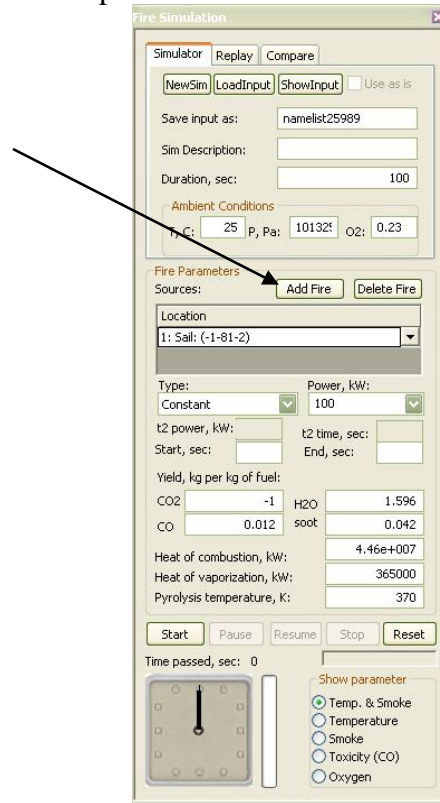

Figure 3.3 Fire Simulation Popup
Step 3: In the Fire Simulation popup (shown in Figure 3.3), by default one fire source has already been added and it defaults to the first compartment. Additional fire sources can be added with the *Add Fire* button, but for this test only use the one specified in the next step.